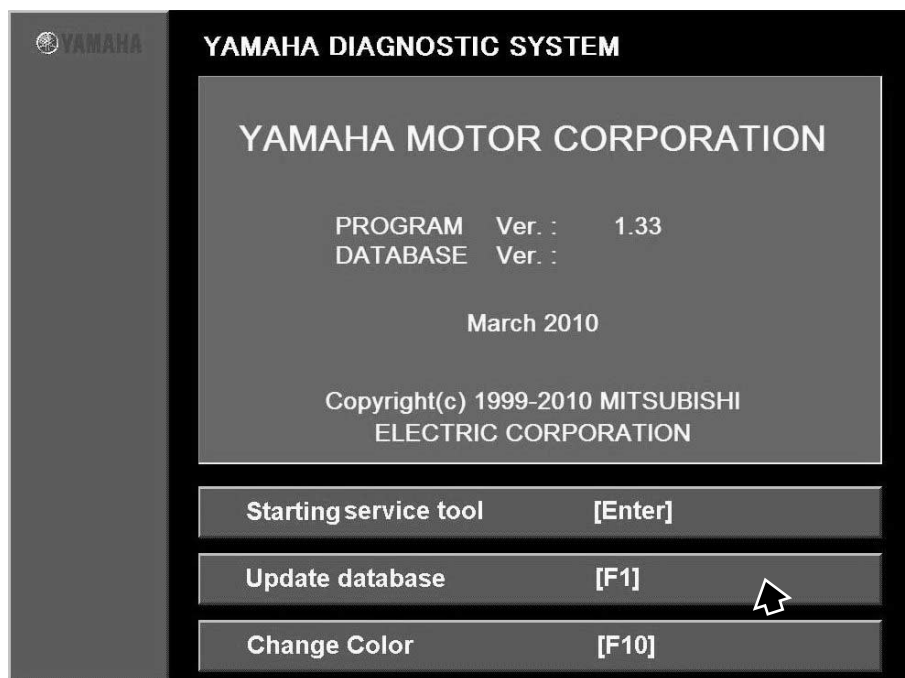

Fig. 11
3. After about three seconds the display will automatically go to the first menu display, or you can click or press any key to go to the first menu. (See fig. 11.)
- To display information, press the Enter key while pressing Shift key in the first menu screen. (See fig. 11.)
- 8.** To quit the Yamaha Diagnostic System from the first menu (See fig. 11.), press the Esc key on your keyboard.